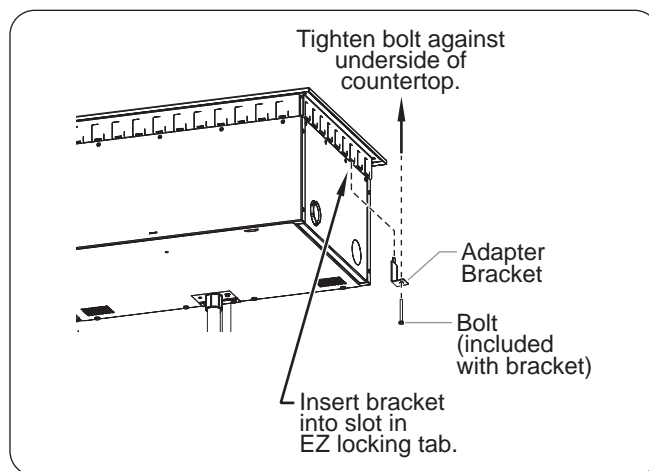

Figure 6. Thick Countertop Adapter Bracket
**NOTE:** The Hatco EZ locking tabs work on countertops that have a maximum thickness of 3/16" (5 mm). For countertops 3/16"-2" (5-51 mm) thick, use an appropriate number of optional thick countertop adapter brackets (P/N R04.42.194.00, see Figure 6).